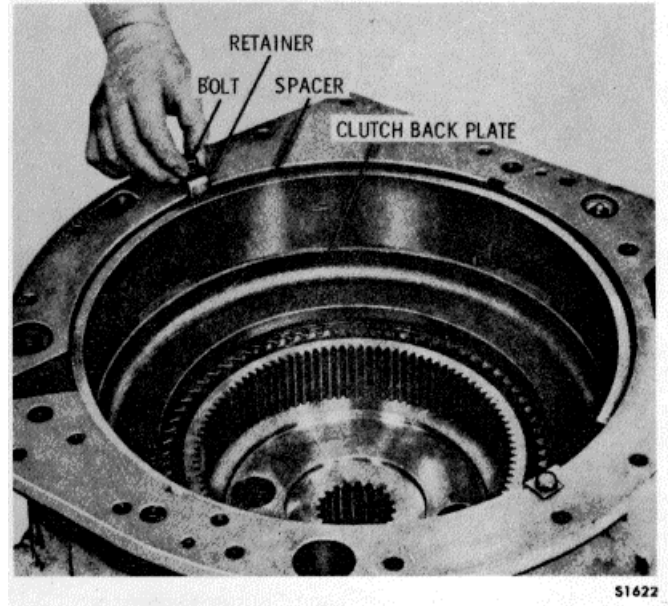

Figure 15-82. Removing Splitter-Overdrive Clutch Backplate Spacer Retainers
1. Turn the transmission housing assembly over, front end up, and rest it on wood blocks. Remove two bolts and retainers that secure the splitter-overdrive clutch backplate spacer (Figure 15-82). Remove the spacer and the splitter overdrive clutch backplate.